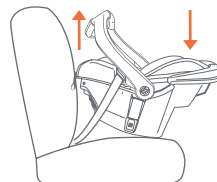
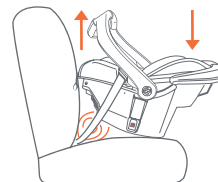

Fig. 56-2
Fig. 56-3
- If the Seat Angle Indicator line is not level, the Safety Seat is either **too upright** or **too reclined**. If the Safety Seat is too reclined adjust the Safety Seat as shown in (Fig. 56-2), until the level indicator shows **level**. If the Safety Seat is too upright, place a tightly rolled towel, or pool noodle, under the foot end of the Safety Seat until the level indicator shows level (Fig. 56-3). Re-tighten the vehicle seat belt as instructed in section **Securing the Safety Seat or Base in the Vehicle**.